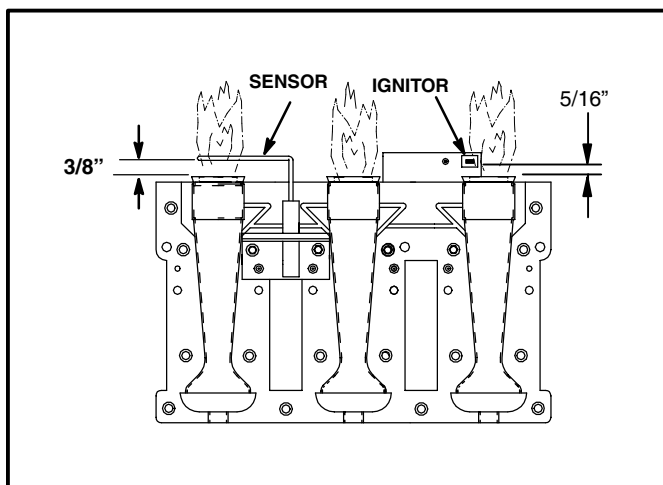
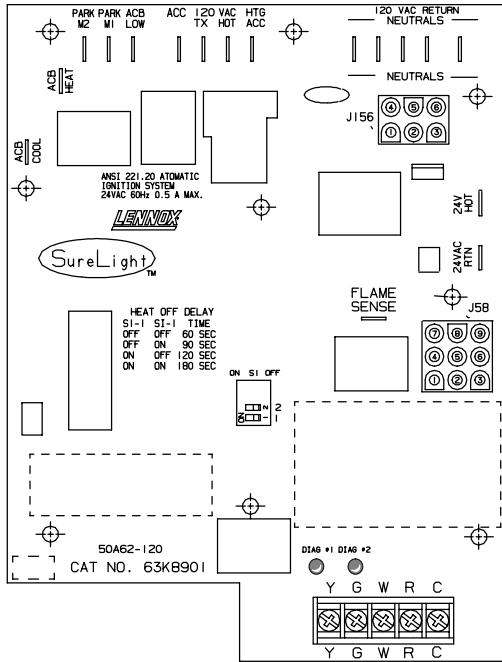

FIGURE 6
FIGURE 8
A flame sensor is located on the left side of the burner support. See figure 6. The sensor is mounted on a bracket in the burner support and the tip protrudes into the flame envelope of the left-most burner. The sensor is fastened to burner supports and can be removed for service without removing any part of the burners. During operation, flame is sensed by current passed through the flame and sensing electrode. The SureLight control allows the gas valve to remain open as long as flame signal is sensed.
All G32-1 through -4 units are equipped with the Lennox SureLight ignition system. The system consists of ignition control board (figure 8 with control terminal designations in table 1) and ignitor (figures 6 and 9). The board and ignitor work in combination to ensure furnace ignition and ignitor durability. The SureLight integrated board controls all major furnace operations. The board also features two LED lights for troubleshooting (and two accessory terminals rated at (4) four amps. See table 2 for troubleshooting diagnostic codes.